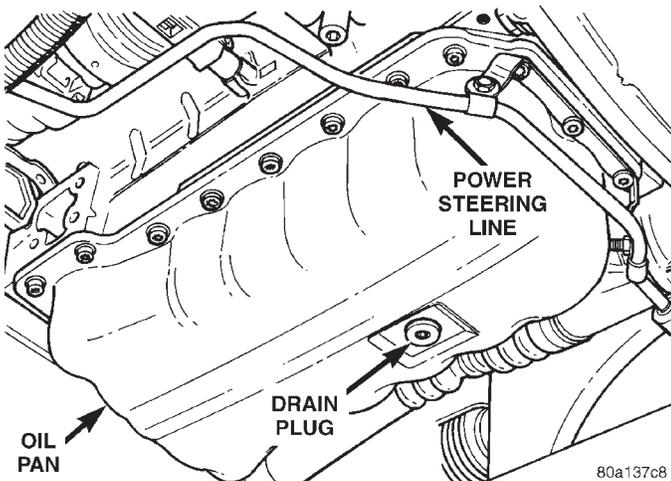

Fig. 5 Oil Drain Plug
- (1) Position the vehicle on a level surface and turn engine off.
- (2) Remove oil fill cap.
- (3) Hoist vehicle. Refer to Hoisting and Jacking Recommendations.
- (4) Place a suitable drain pan under crankcase drain.
- (5) Remove drain plug from crankcase and allow oil to drain into pan (Fig. 5). Inspect drain plug threads for stretching or other damage. Replace drain plug if damaged.